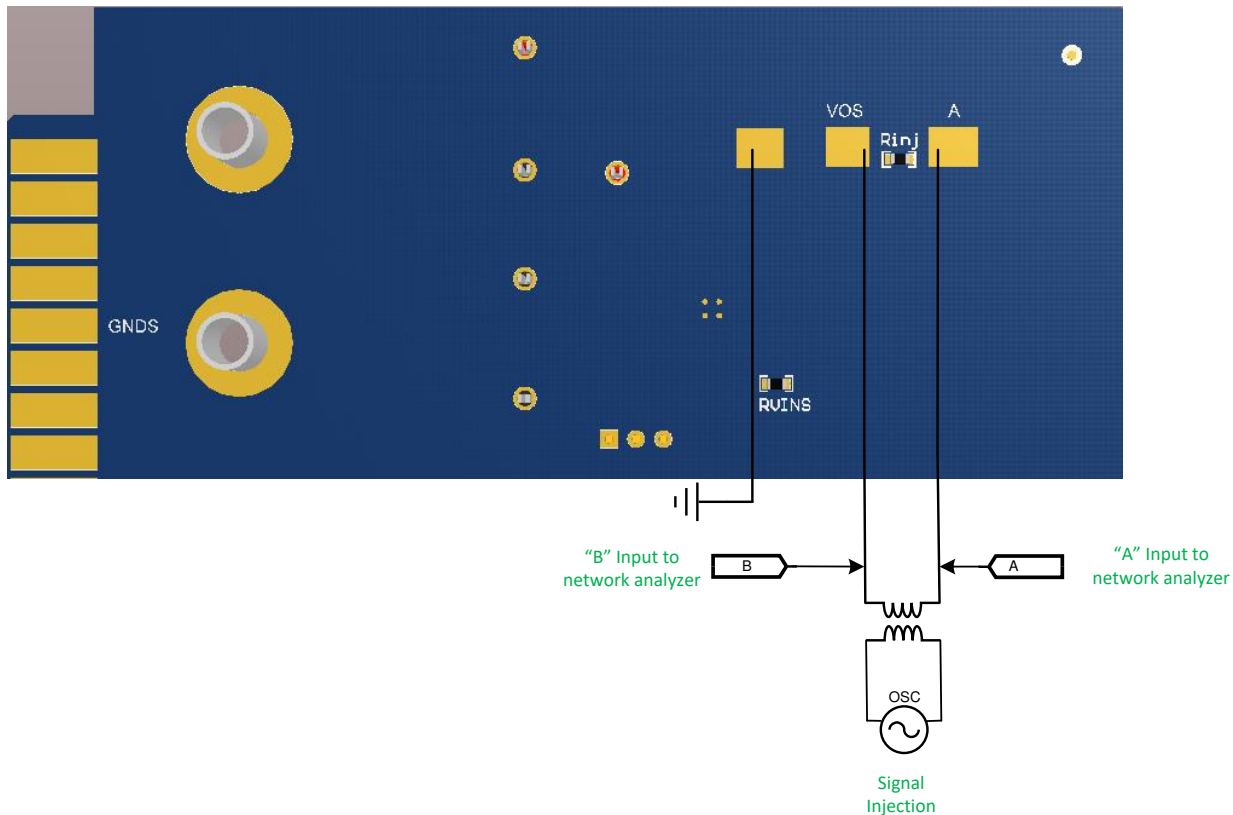

Figure 4. Frequency Response Analyzer Setup
- **A** - Connection for frequency response analyzer (on bottom of board). See Figure 4.